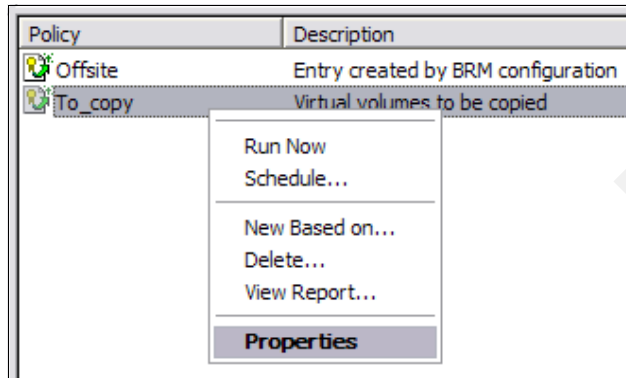

Figure 7-11 Properties
1. Right-click your move policy **TO_COPY** and select **Properties** as shown in Figure 7-11 on page 343.